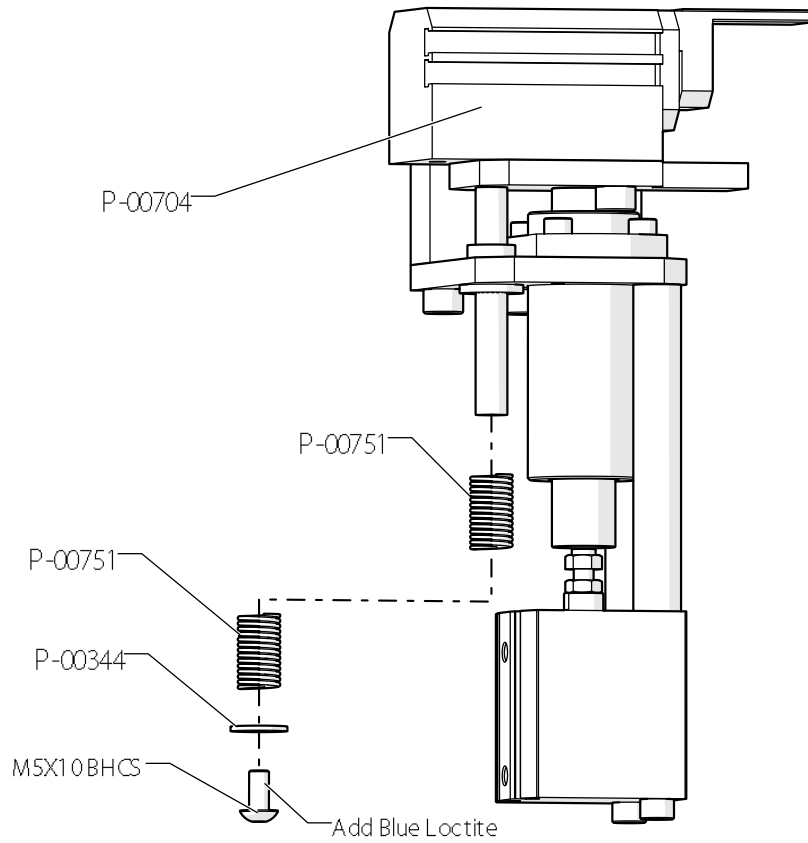

Figure 32: Removing Hardware for P-00704
Step 2: Remove M5X10 BHCS, P-00344, and P-00751 shown in Figure 32.